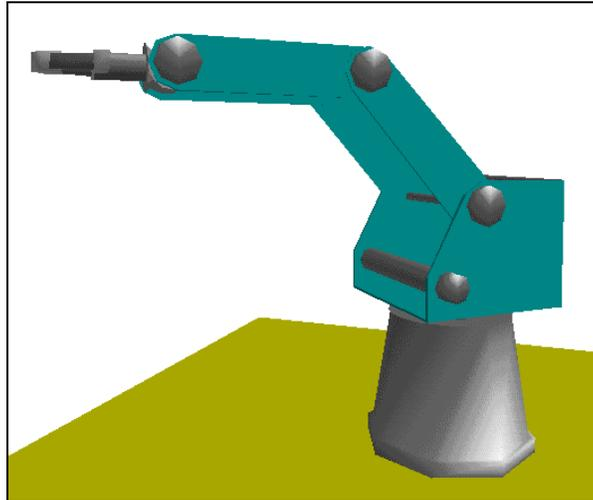

Figure 3-4: Position #3
- 7 Moving only the shoulder axis, bring the robot arm to the position shown in Figure 3-4, and record this as position #3.